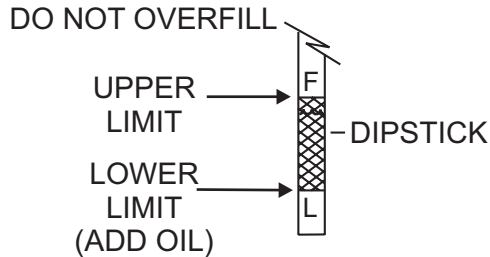

Figure 44. Dipstick Engine Oil Level
3. Determine if engine oil is low. Oil level should be between the upper and lower limit (Figure 44) on the dipstick.